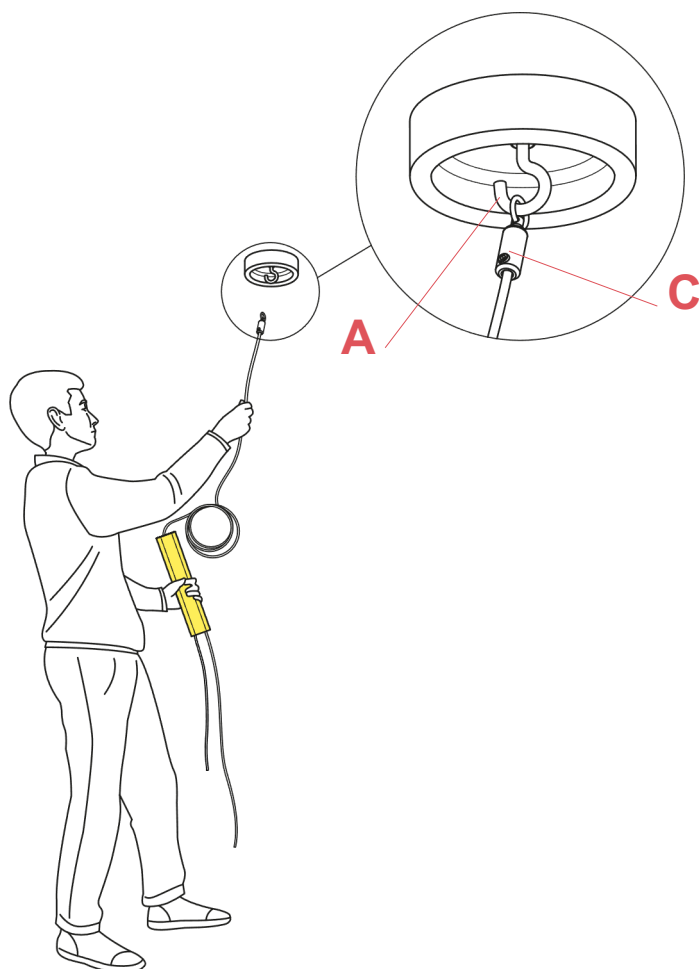

Fig.2
Hook the steel wire end (C) to the open ring (A).(Fig.2 page 15)